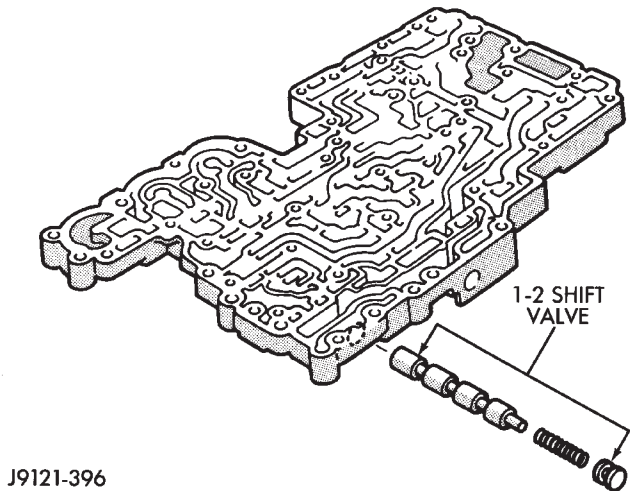

Fig. 4 Removing/Installing 1-2 Shift Valve
(6) Remove 1-2 shift valve plug, valve spring and valve (Fig. 4).